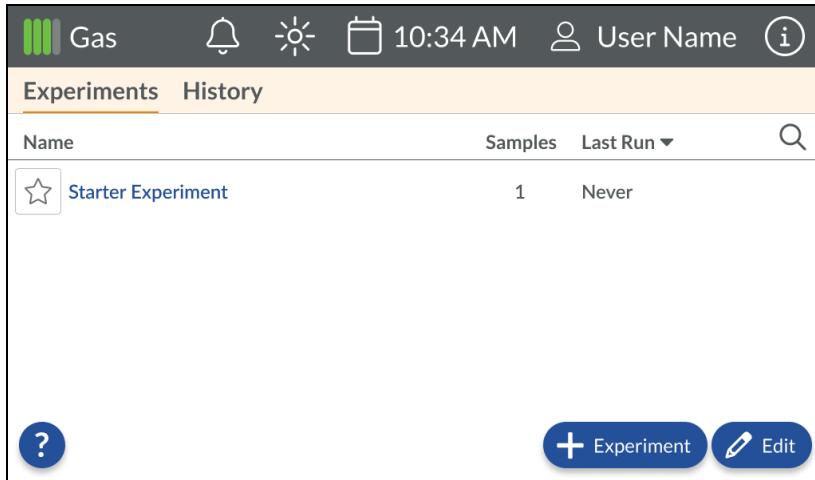
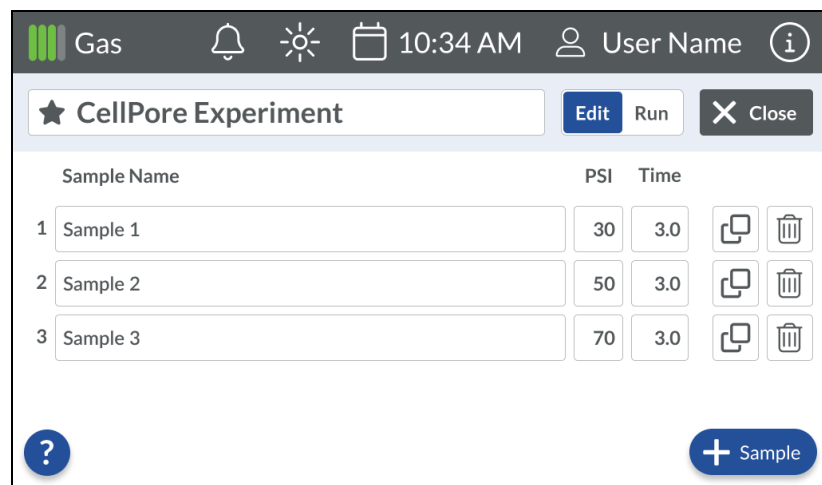

Figure 23. User Experiments Menu
Figure 25. Modifying an Existing Experiment. Experiments that are recalled display the list of samples that were previously defined.
Experiments may be newly created or duplicated from a previous experiment that was saved by the user. The Experiments tab on the Home Screen lists all the existing experiments for the current user (Figure 23). Tap the “Name”, “Samples”, or “Last Run” headers to sort the list of experiments by that category. The sort order can also be reversed by tapping the header a second time.
Select the desired experiment by tapping on the appropriate line of the list in the Experiments tab. This opens the selected experiment in Edit mode (Figure 25).
2. From the Experiments List, choose the desired Experiment to be run by tapping its name (Figure 23). The Experiment opens in Edit mode; review the Sample Name list and parameters for accuracy (Figure 25).